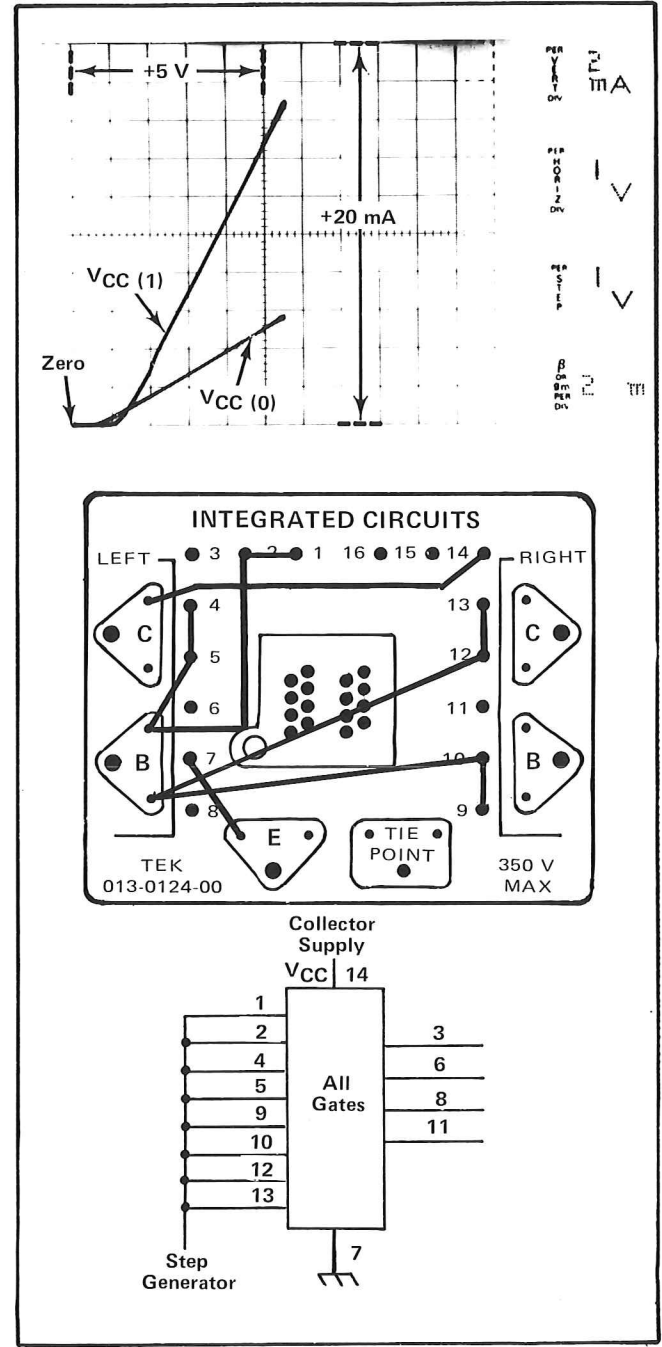

Fig. 10. Setup and Type 576 display for measuring  $V_{CC \max}$ .
b. Connect the patch wires to the IC adapter as shown in Fig. 10.2
c. Set the LEFT-OFF-RIGHT switch to LEFT and turn the VARIABLE COLLECTOR SUPPLY control until  $V_{CCmax}$  is obtained, 5.25 V (see the display in Fig. 10).